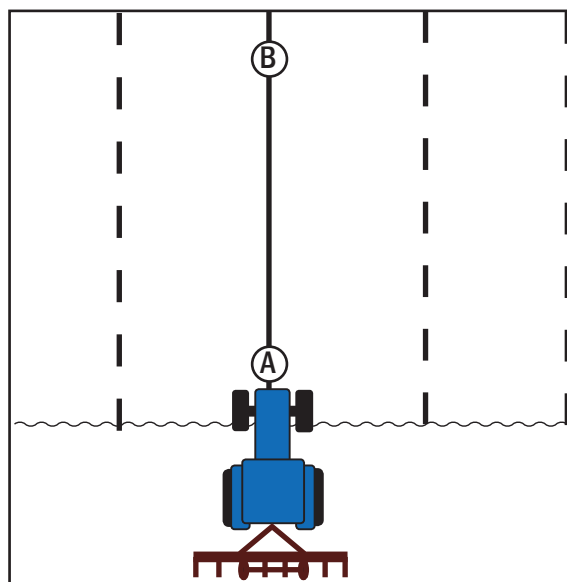

Fig. 148: “Straight track” mode
- You can set two points manually (“A + B”) or using coordinates (“Lat/Lon”) (see Fig. 148). Regardless of the actual distance driven, ULTRA GUIDANCE PSR ISO creates a straight track through the two points.